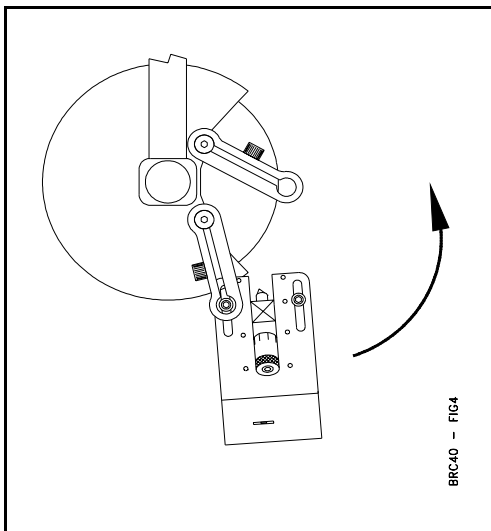

Figure 3 Hang the Lathe
- Hang the Lathe on the lower Twin Cylinder Mounting Bracket as shown in Figure 3.